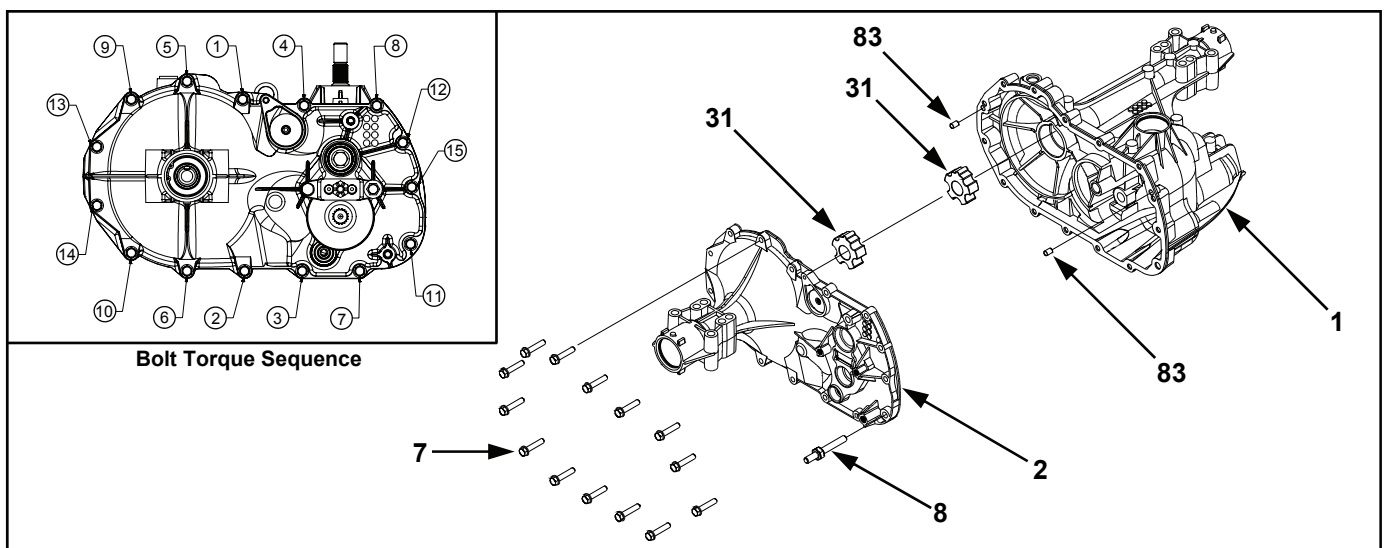

Figure 11. Side Housing Assembly
Refer to Figure 11.
4. After all of the oil has been removed from the transaxle, remove the housing screws (7) and torque strap screw (8).
5. Pull away the side housing (2), leaving the axle assembly (35, Page 32) in the main housing (1). It may be necessary to use screwdrivers at the pry points to break loose the sealant (positions B-H and G-J, Fig. 11).
2. Install the axle and sleeve bearing (31). *Note the orientation of the locating tab on the sleeve bearing. It is essential for this to align with the side housing bore.*
3. Install the locating pins (83), if not already installed.
4. Install the side housing (2) while aligning the bypass rod into its side housing bore. Use care not to smear the sealant bead.
5. Install the torque strap screw (8). Tighten the screw according to the specifications in Table 5.
6. Install the side housing screws (7). Refer to the screw tightening pattern in figure 11 and torque specs in Table 5.